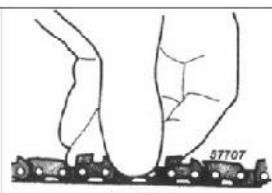

Fig.PP7
4. Pull the chain by hand along the top of the guide bar several times from the engine to the bar's tip. The chain should feel snug but still pull freely. See Fig.PP7.